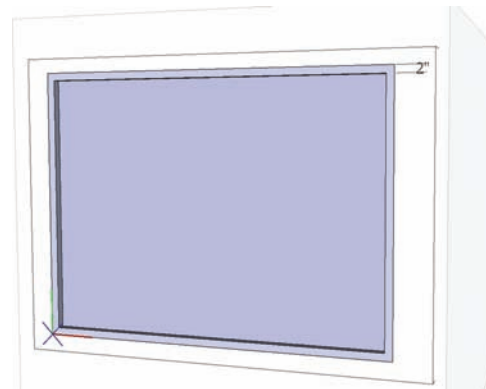

Fig. 9-8: Offset the component face 2". Push/Pull the face 2" inward.
8. Offset the new face 2" inward. Push/Pull the center face in 2" (Fig. 9-8).